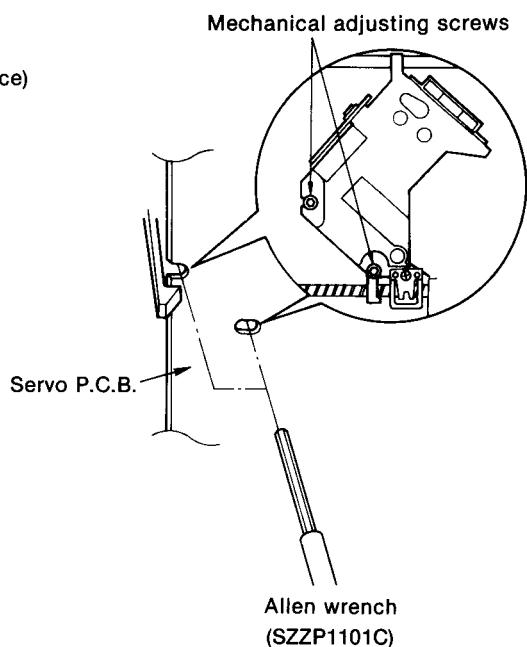

Fig. 2
2. Engage the gears as shown in Fig. 2 and then move the disc tray in the same direction.
(Refer to Fig. 2 on page 12)